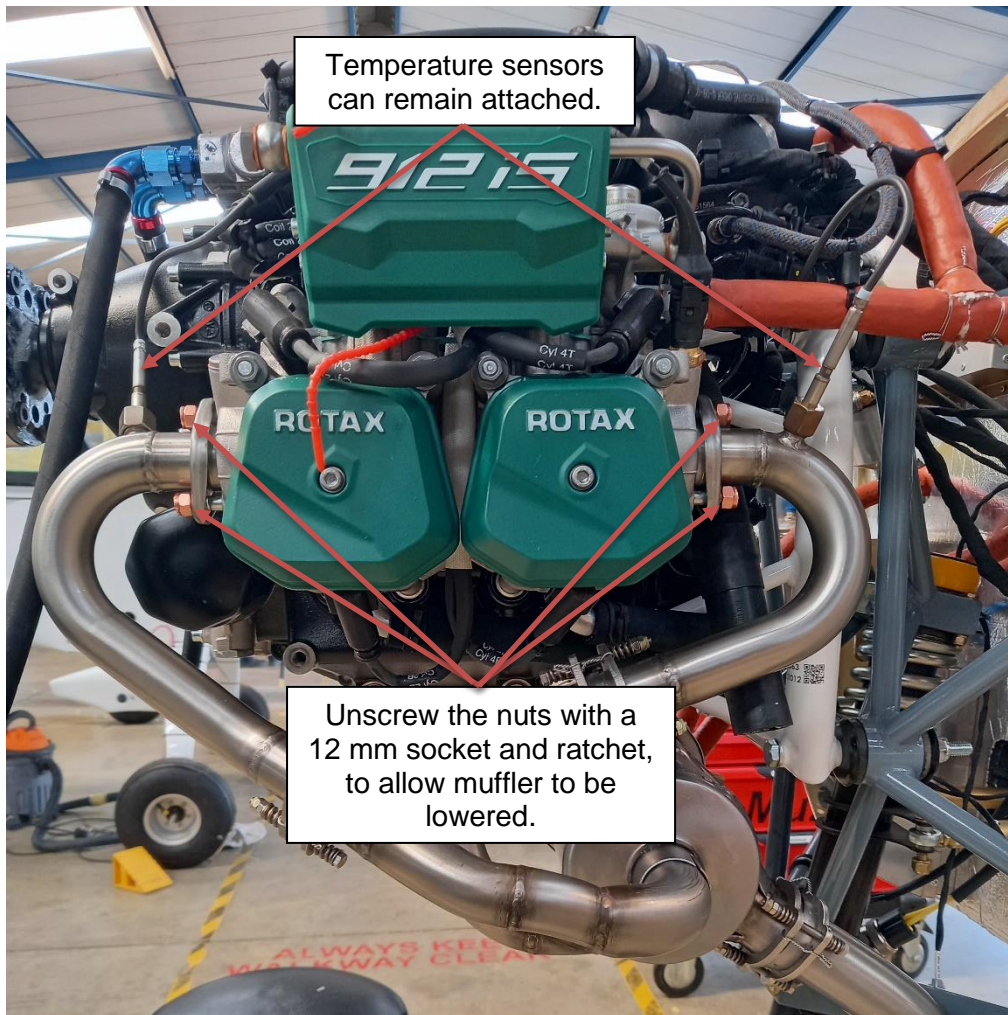

Figure 4: Detaching of the Rotax 912 iS exhaust.
Step 5: Before bolts 3 and 4 can be replaced the muffler needs to be lowered, to create enough clearance to remove the bolts. As shown in Figure 4, the nuts holding the exhaust pipes to the engine should be unscrewed to allow the pipes to detach from the engine. Do not detach the exhaust tubes from the muffler. This must be done for both the left- and right-hand side of the engine so that the exhaust can detach on both sides of the aircraft. The